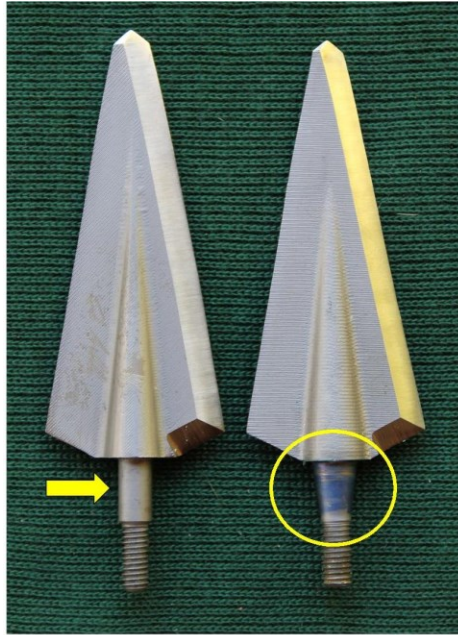

Figure 1: The improved Ashby (right)
- The point where the threaded insert meets the base of the broadhead – would occasionally fracture when the broadhead was used on big animals (Figure 1).
But development comes a step at a time and the broadheads we were sent now had the straight edge of the thread radiused, as shown in Figure 1, to make it stronger. Garrets instructions to us were: “Try and break it” and so we set out to do just that.